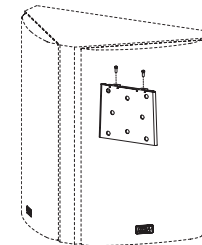

Figure 12
- 7) For a more secure mounting, the two parts of the bracket can optionally be screwed together. Use the two supplied machine screws to fasten the brackets together. (See Figure 12)